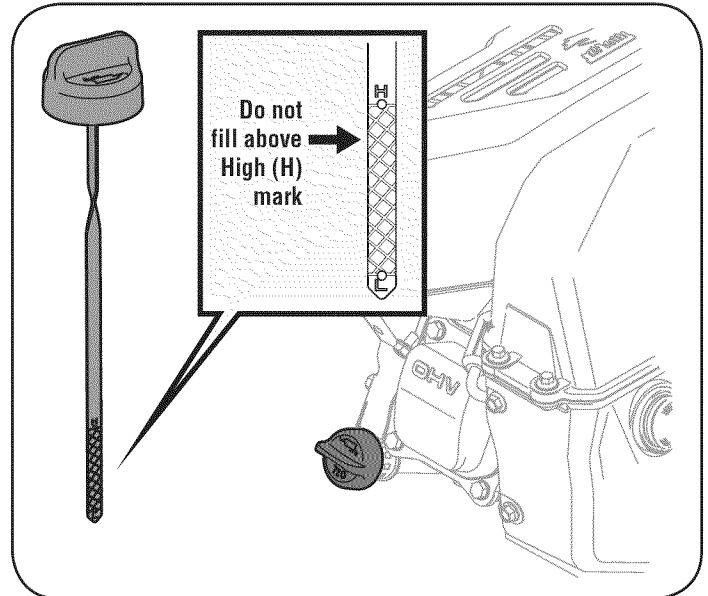

Figure 19
3. Remove the oil filler cap/dipstick. If level is low, slowly add oil until oil level registers between high (H) and low (L). See Figure 19.